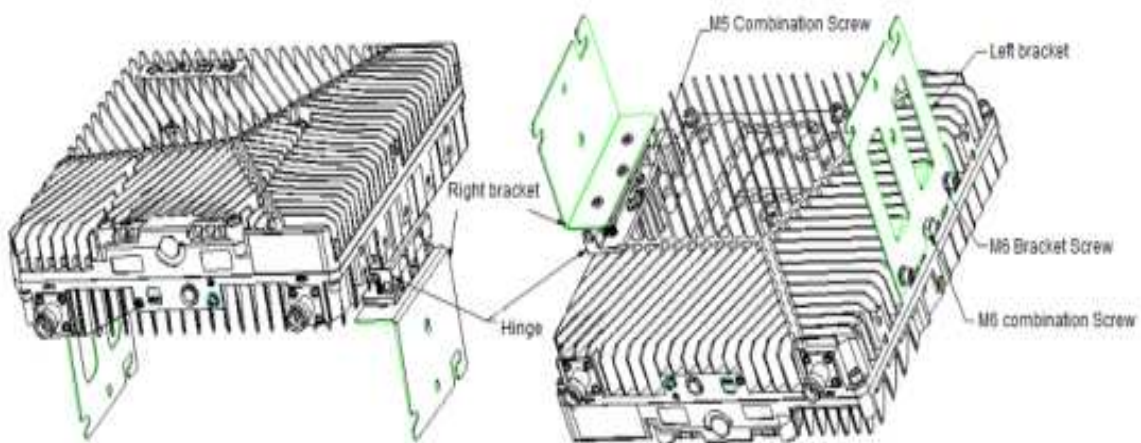

Figure 47. Installation of the Left and Right Brackets and Device Bracket
- 2) Assembly of left bracket, right bracket, and equipment, as shown in Figure 47.